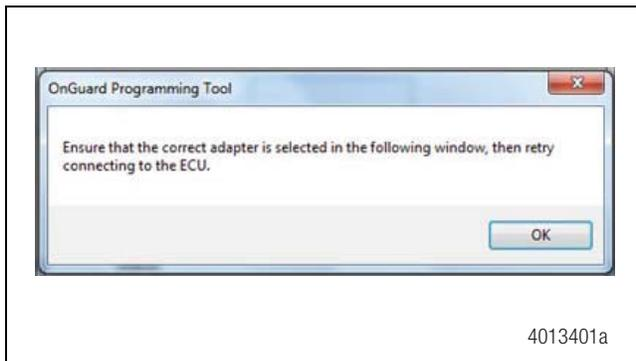

Figure 15
- B. Select "OK" in the following window. Figure 15.